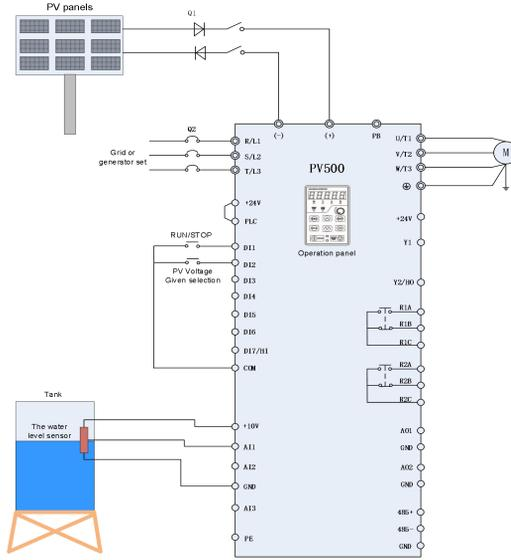
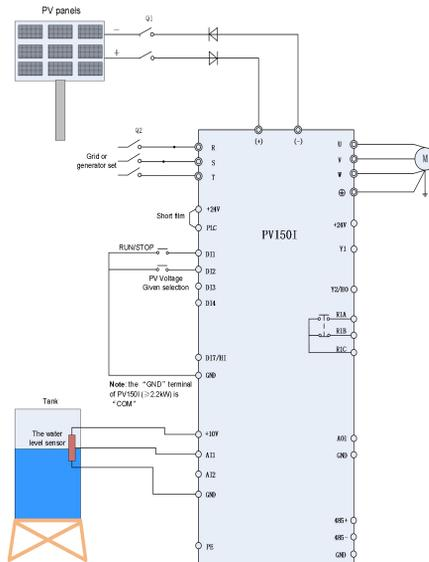

Figure 2-3 PV500 Grid or Generator Power Supply Wiring Diagram
Figure 2-4(d) PV150I
1. Wirings as Figure2-3&Figure2-4 system wiring drawings according to inverters power, check and confirm the connections to be correct.